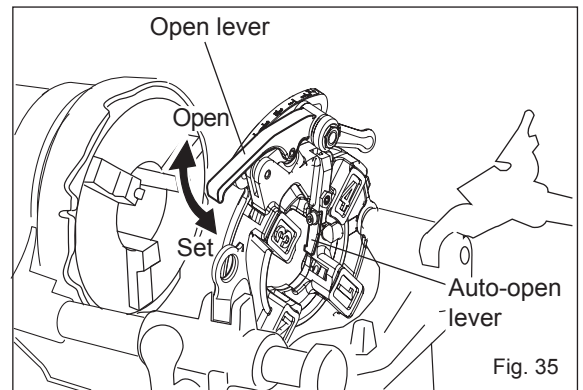

Fig. 35
- Press down on the Open lever to put it into the 'Set' position. (Fig. 35)